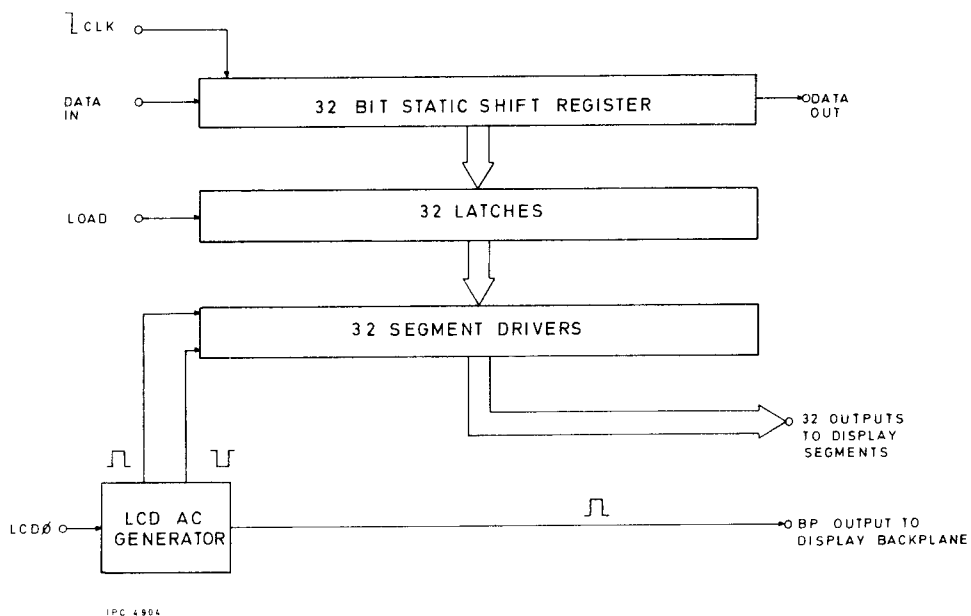

Fig. 7 Display driver : block diagram
Circuit diagram : Chap. 7, Figs. 7 and 9
66. The displays on the liquid crystal display unit X1 are driven using two CMOS LSI circuits IC1 and IC2 connected in cascade. These integrated circuits each contain a shift register, latches, segment drivers and an oscillator. Fig. 7 shows the display driver in block diagram form.